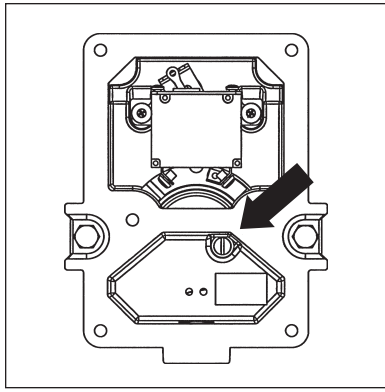

Figure 2
3. Insert the power cord into the power cord inlet located at the bottom of the pump. Attach ground wire using green ground screw located inside the electrical box (Figure 2).